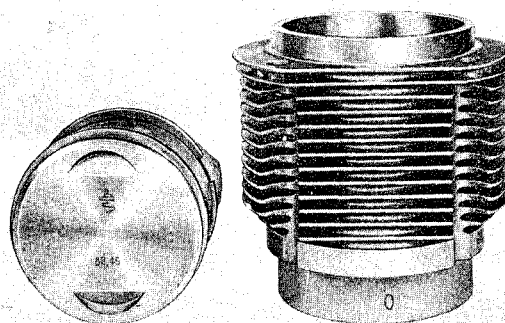

Fig. 167
The nominal size ( $D_1$ ) is marked on the piston face (Fig. 167, 182).
4. Measure pistons. Each piston is marked with its size group on its crown (Fig. 167 and 168). Measurements are taken as shown in Fig. 182 and 183. Measure pistons perpendicular to piston pin axis.